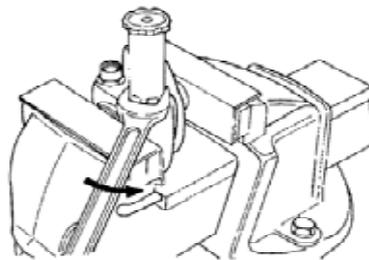

Figure 126 Removing the Priming Pump
- b. Clamp the pump in a suitable vice, ensuring soft jaw covers are used and remove the priming pump (Figure 126). Discard the O ring.